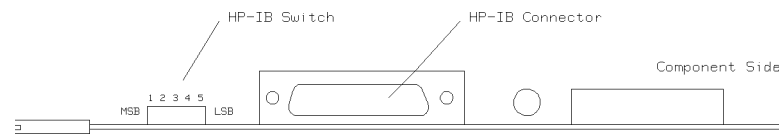

Figure 5-1. HP-IB Switch Location
When setting the HP-IB switch note that the **Address LSB** is closest to the HP-IB connector. See Figure 5-1.
3. Remove the side cover(s) of the Master Standardframe where the Extender(s) is/are to be installed. This is done by releasing the two screws located at the top inside of the side panel when viewed from the Standardframe top. The side cover(s) can now be removed by lifting upwards and releasing it/them from the bottom hook fasteners. Refer to Figure 5-1.